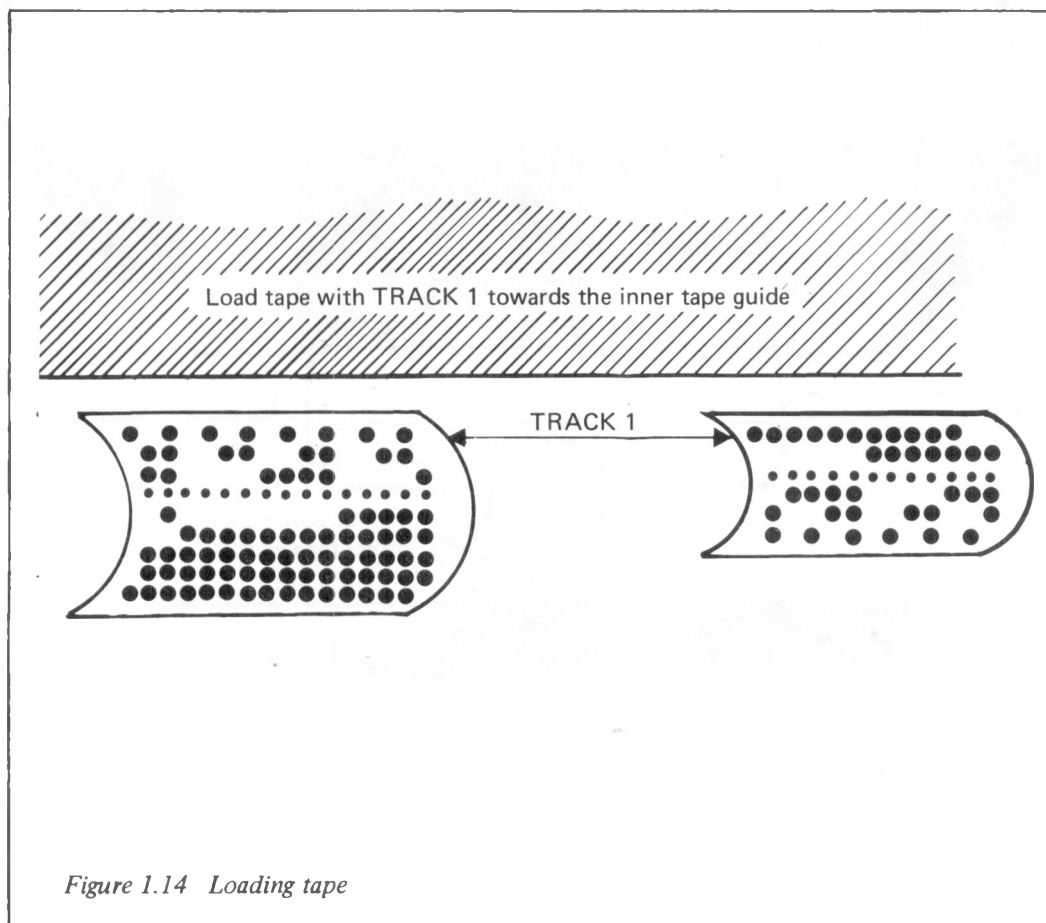

Figure 1.14 Loading tape
- 3 Position the tape underneath the drive rollers with track 1 towards the inner edge guide (see Figure 1.14)